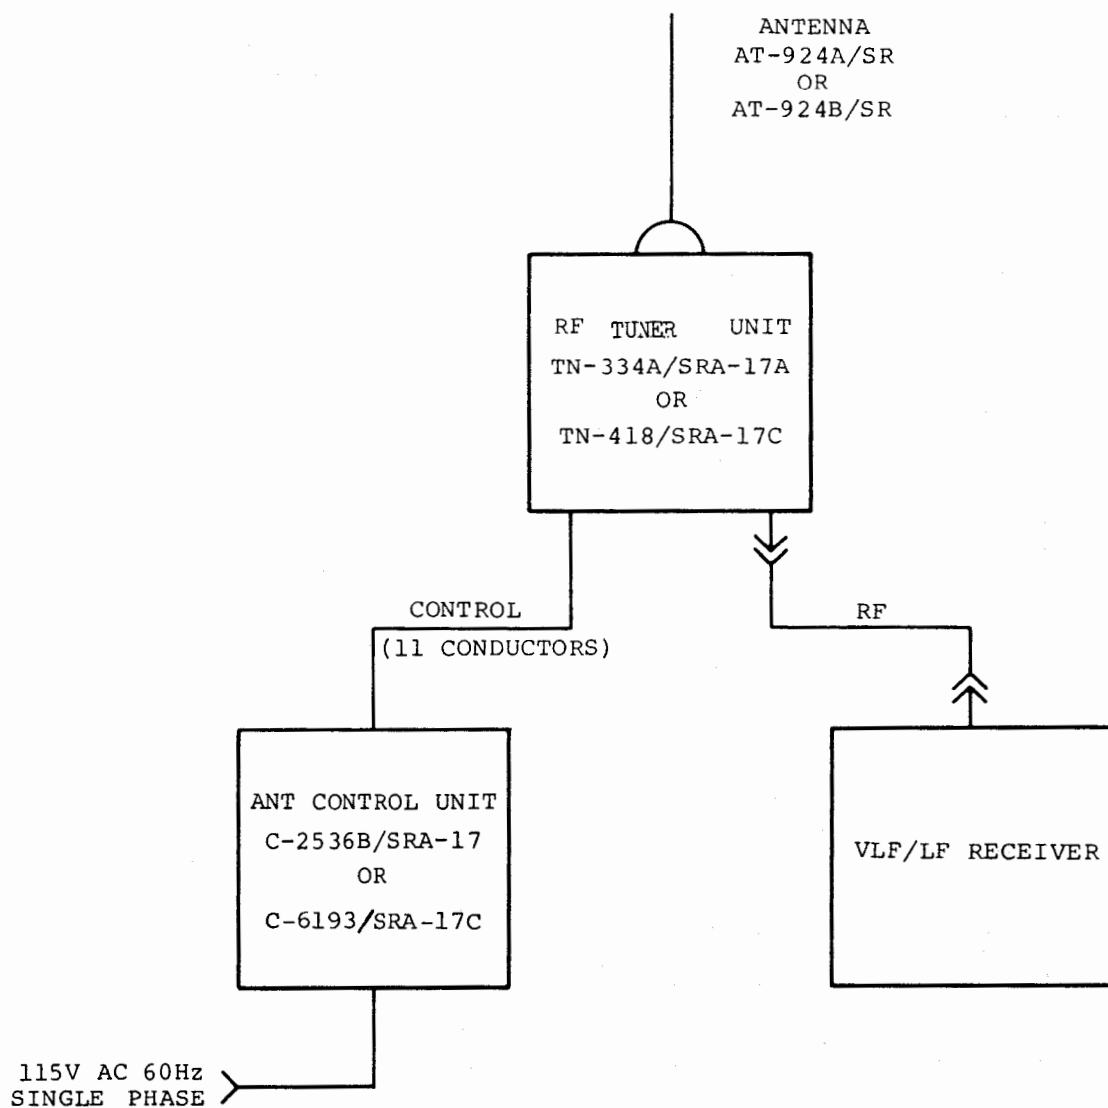

Figure 6-3 Antenna Groups AN/SRA-17B and AN/SRA-17C Interconnection Diagram
c. INTERCONNECTION DIAGRAM. - See Figure 6-3.
(1) AN/SRA-17B. Solder connection to terminal board.
(2) AN/SRA-17C. Type N (UG-58A/U).